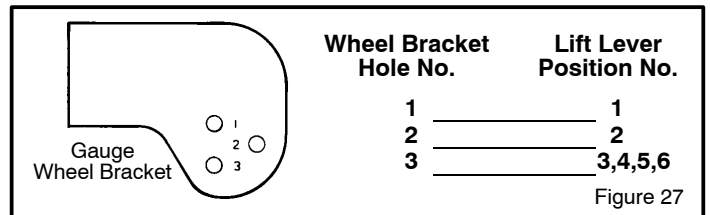

Figure 27
3. Look at each **gauge wheel bracket**. There are 3 holes in each bracket and a number next to each hole. The number for the height of cut position on the **lift lever** indicates the correct hole to use on each **gauge wheel bracket** (Figure 27).
4. Assemble the axle bolts to the **gauge wheel brackets** using the correct hole in the bracket as indicated (Figure 27).
NOTE: If the height of cut position is changed by the lift lever, you must move the gauge wheels to the correct hole (Figure 27) to keep a level height of cut.